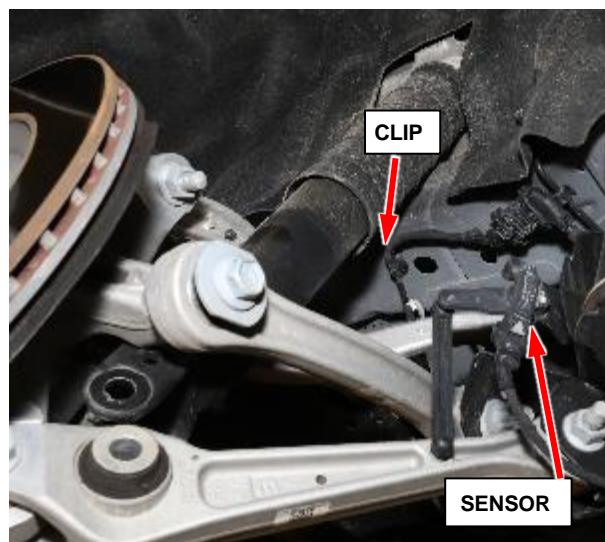

Figure 12 – Ride Height Sensor Cable Fastener
- 13. Remove the ride height sensor cable fastener (clip) at the body (if equipped) (Figure 12).
26. Install the ride height sensor cable fastener (clip) to the body (if equipped) (Figure 12).